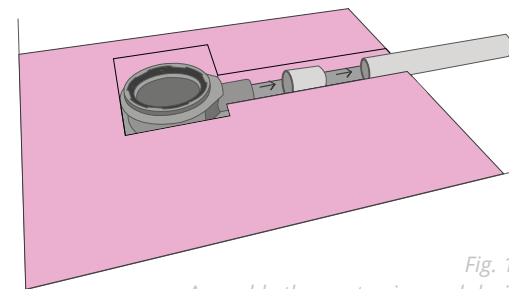

Fig. 16
3. Connect the drain to the waste pipe, making sure the top of the drain is level and centred on the shower tray drain above (Fig.16).